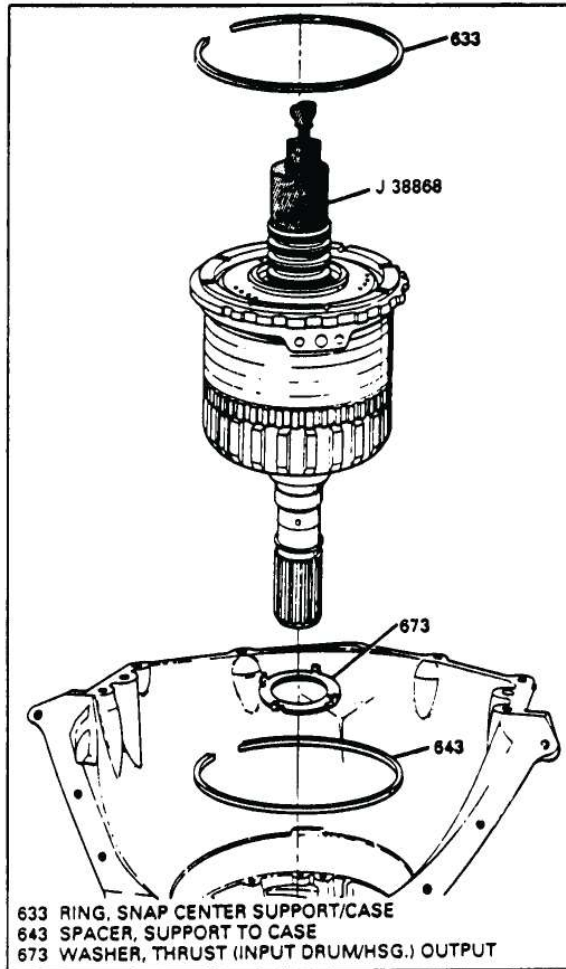

Figure 75
2. Install J-38868 tool onto gear train assembly, as shown in Figure 75.
3. With transmission in a vertical position align bolt hole in center support with hole in case, and carefully lower gear unit and center support assembly into the case using J-38868 tool until fully seated (See Figure 75).